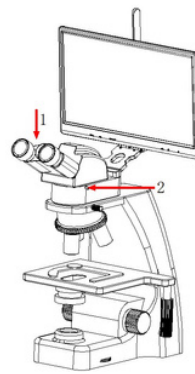

Fig. 5-5-3
- 1) The microscope eyepiece head is inserted into the master interface of camera, as shown in figure 5-5-3;